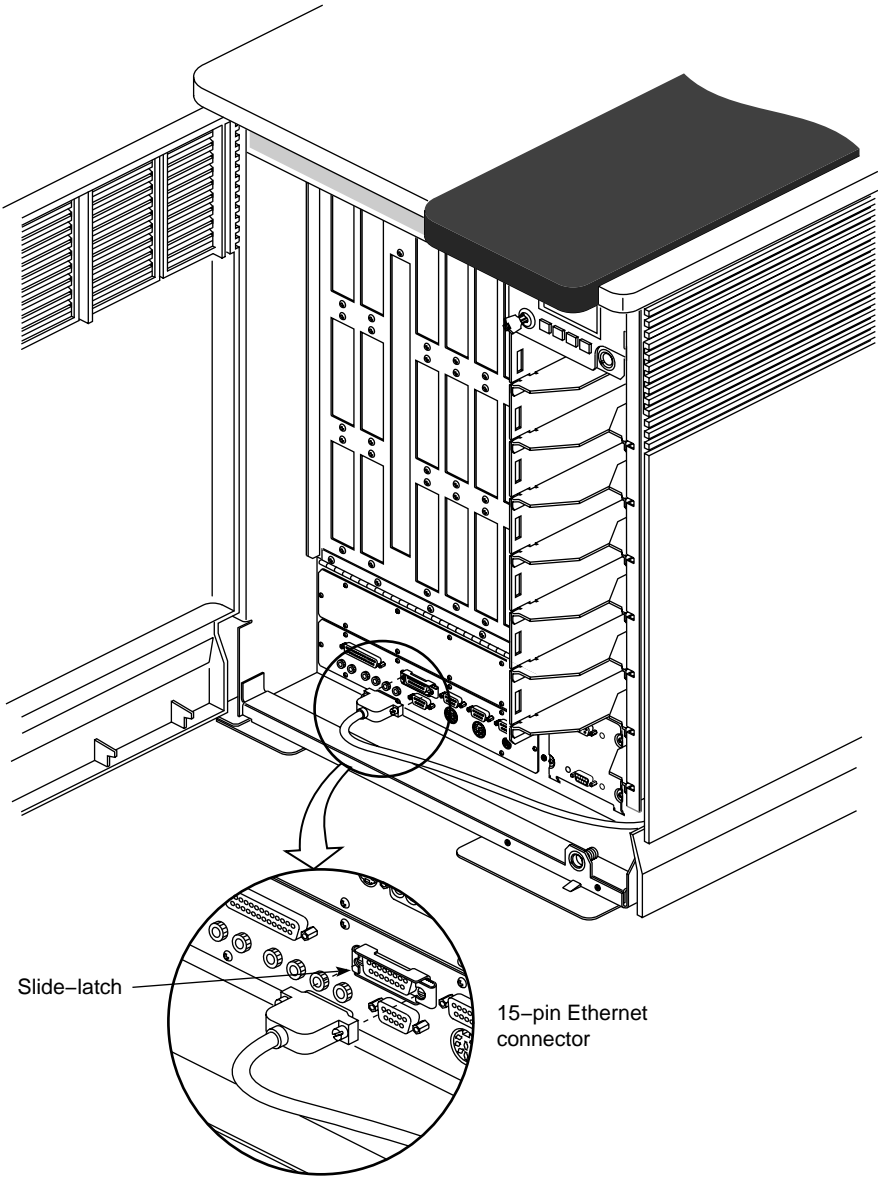

Figure 3-3 Connecting an Ethernet Cable
3. Plug in the Ethernet connector (make sure to secure the 15-pin connector with the slide latch). See Figure 3-3.